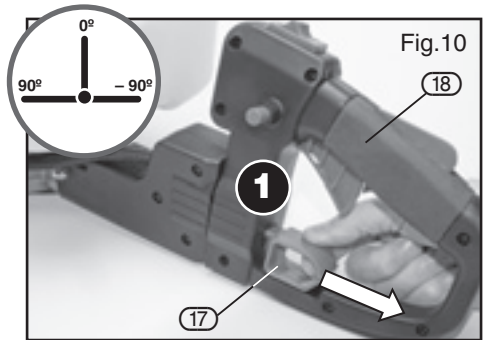

Fig.10
9.4 HORIZONTAL ROTATING REAR HANDLE – FIGS.10 – 11